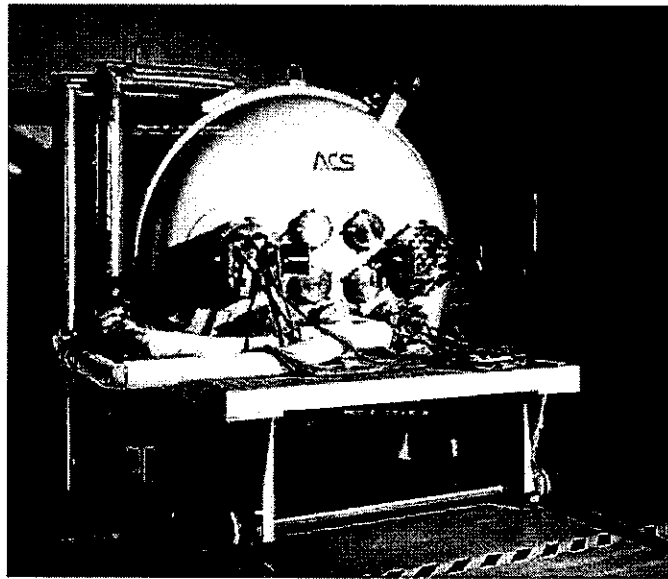

Figure 2: Example of Vacuum Test Chamber Installation*
- 2.15 The installation shall be carried out in such a way that the door of the equipment which is the entry point of the test piece must be in the clean room area and the other part of the test equipment must be integrated into the wall of the room as shown in Figure 2.